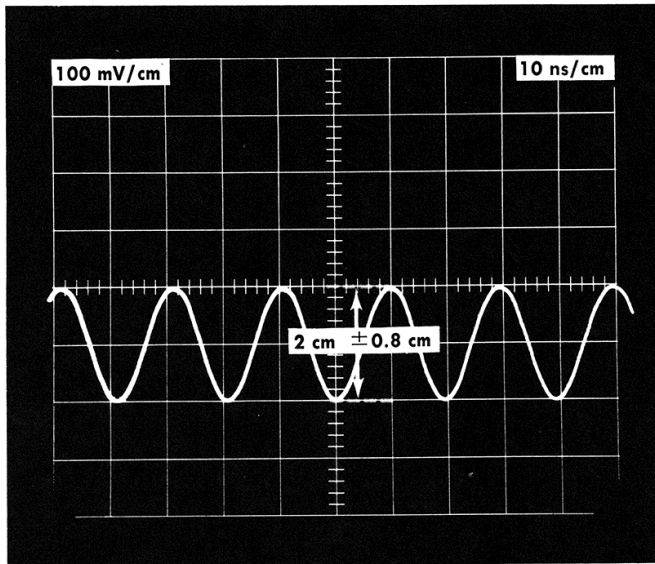

Fig. 5-8. Typical display showing Sine Wave Trigger Output signal.
e. Check—Sine wave trigger amplitude is within 2 cm ± 0.8 cm peak to peak (200 mV $\pm 40\%$) see Fig. 5-8.